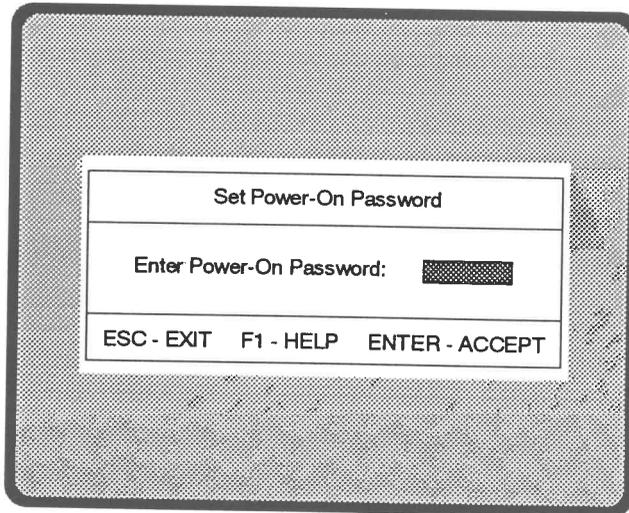

Figure 4-13 Set Power-On Password Window
6. The **Set Power-On Password Window** appears (see Figure 4-13). Type from one to seven characters (any printable ASCII character), with the following considerations: